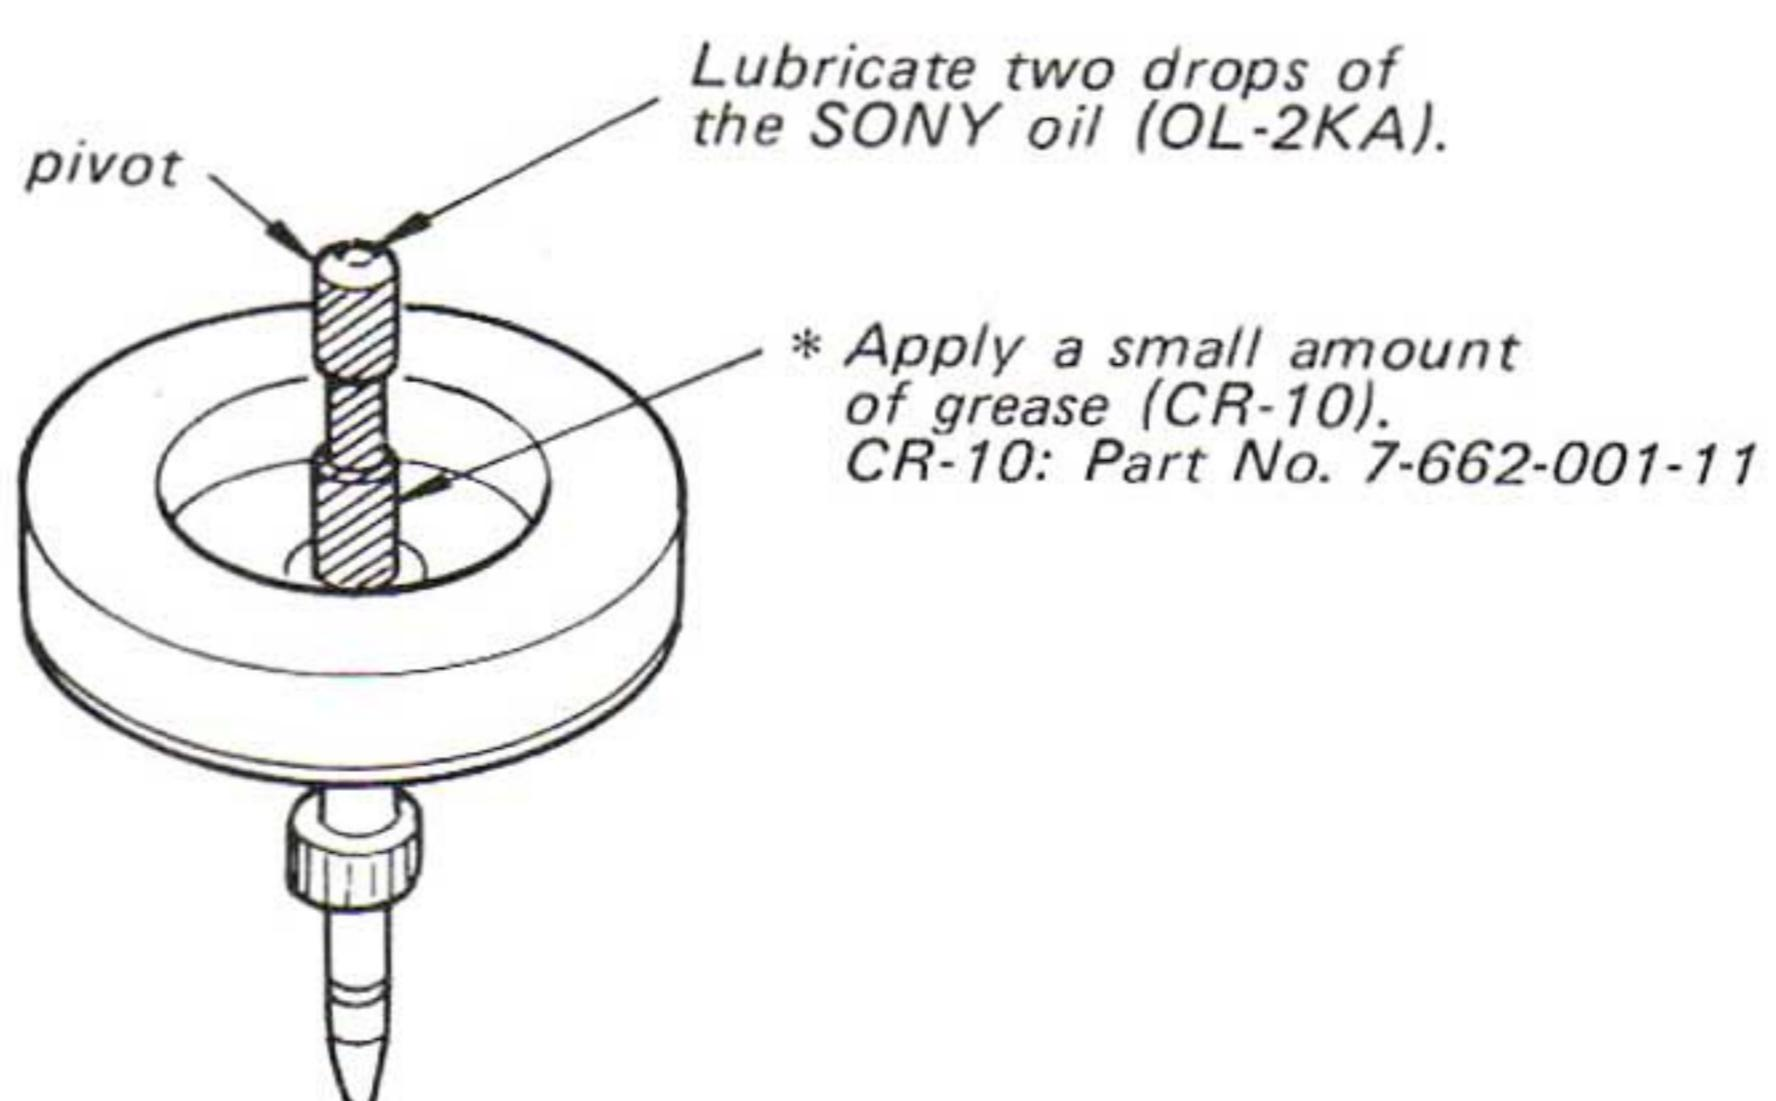

Fig. 5-2
1. When the motor shaft is replaced, lubricate two drops of the SONY oil (OL-2KA) in the pivot and apply grease to the parts marked by * in Fig. 5-2.